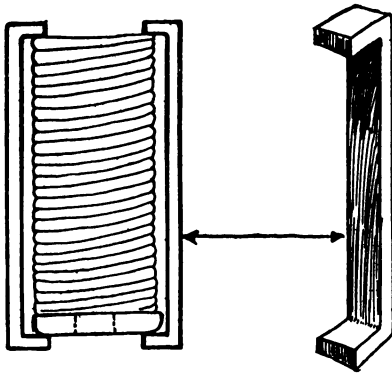

Fig. 172. Spring Clamp, Which Is Easily Made and Saves Much Work and Trouble
**Holding Valve Springs Compressed.** Many times there is a need for holding the spring in its compressed form, as, for instance, when the valve is removed with the positive certainty that it will be replaced within four or five minutes. In such a case a clamp which will hold it in compression is very useful, for it saves both time and work. These may be made to the form shown in Fig. 172 in a few minutes' time, for they consist simply of a pair of sheet-metal strips with the ends bent over to form a very wide U-shape. A pair of these is made for each separate make of valve spring, because of the